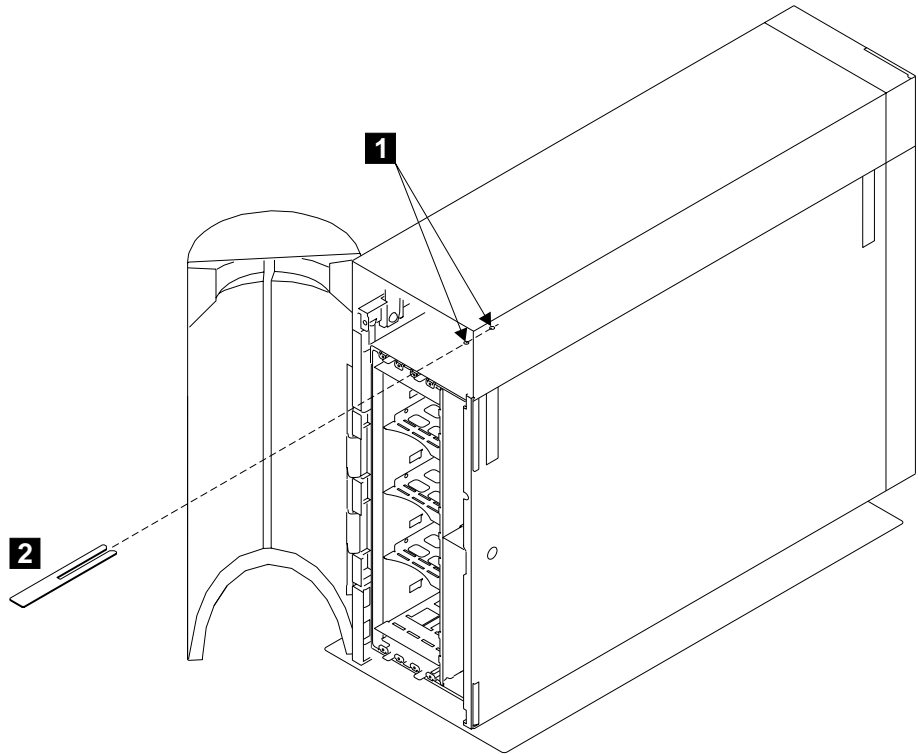

Figure 126. Removing the Frame from a Model T40 (2)
Step 6. Refer to Figure 126.
- a) Install the two screws (**1** in Figure 126), but do not fully tighten them yet.